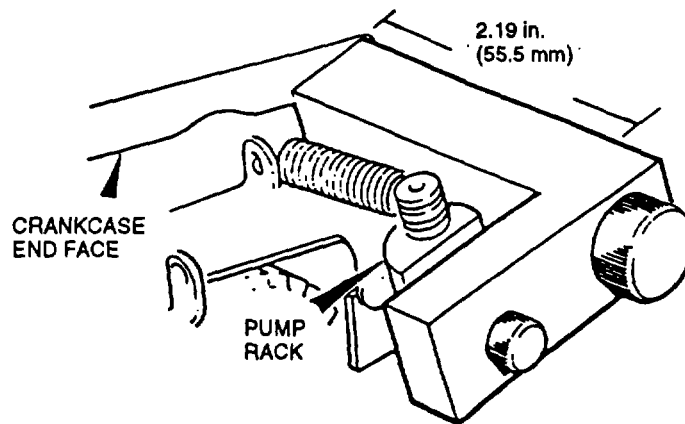

FIGURE 3-9. Setting Pump Rack
- f. Using fuel pump rack setting gage (317-50114), clamp pump rack in shutdown position. Screw on gage threads into end cover tapped hole, refer to FIGURE 3-9.